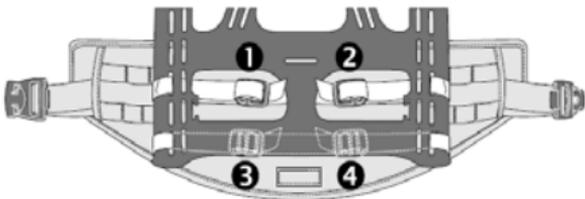

Figure 4. Buckle Tabs.
1. Lift buckle tabs (Figure 4, Items 1 through 4) to put more weight on the hips.